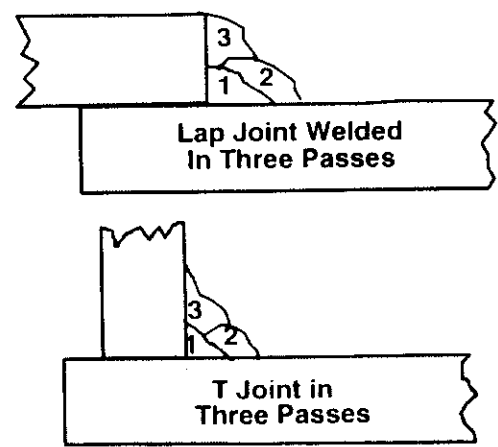

Figure 16. Triple Pass Lap and T Weld Joint
**Fillet Weld Joints.** Most fillet weld joints, on metals of moderate to heavy thickness, will require multiple pass welds to produce a strong joint. The illustrations in Figure 16 show the sequence of laying multiple pass beads into a T fillet joint and a lap fillet joint.